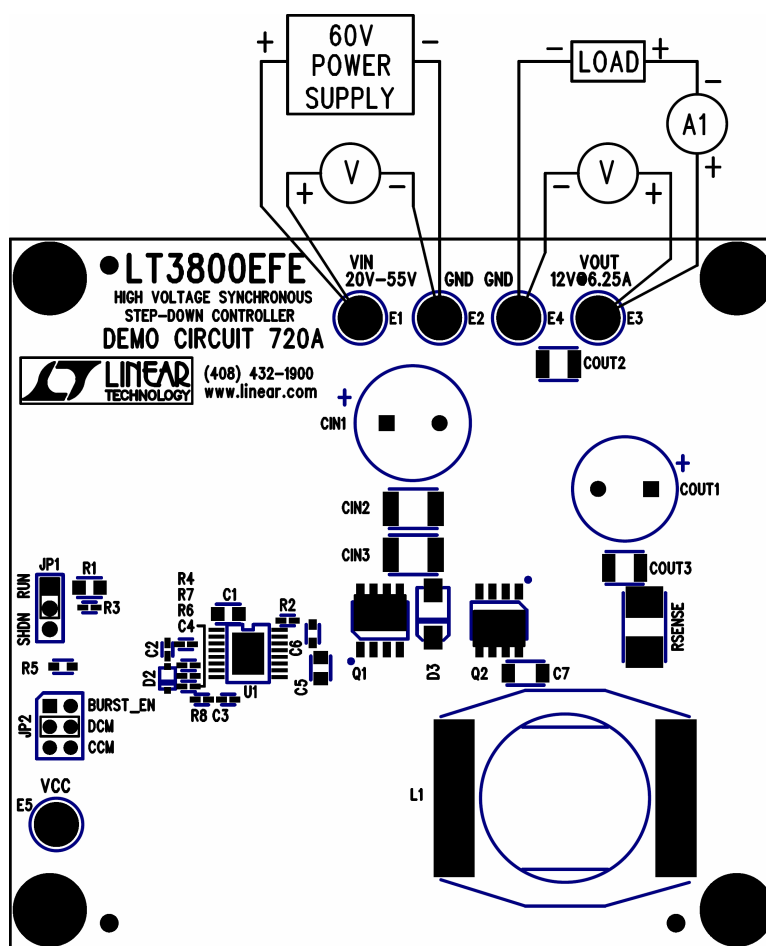

Figure 1. Proper Measurement Equipment Setup
DC720 is easy to set up to evaluate the performance of the LT3800. Refer to **Figure 1** for proper measurement equipment setup and follow the procedure below:
1. Apply a 0 – 6.25A Load across the Vout/Gnd turrets. Refer to **Figure 1** for proper measurement equipment setup and follow the procedure below:
2. Connect Voltmeters and Ammeters as shown in Fig. 1.